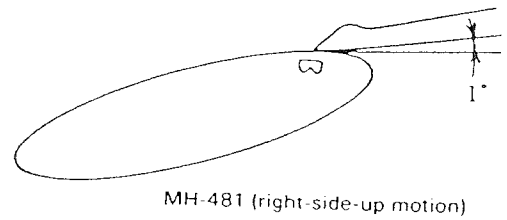

Fig. 1
* In the model MH-481, "right-side-up" motion is employed as shown in Fig. 1. Through this motion, the looper keeps a constant clearance from the surface of the needle until it has taken up the needle thread from the needle. Also a length of thread taken up by the thread spreader is adequately compensated.